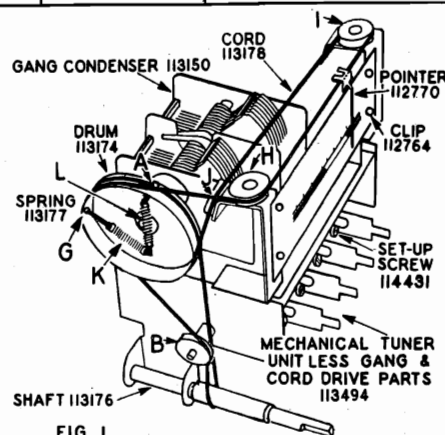

FIG. 1
1. Before setting up buttons, turn on set for at least 15 minutes. To set up a push button, pull off the button cap by grasping the button and pulling upward on it. When the button is removed, the set-up screw will be exposed to view (See Fig. 1). Insert a screw-driver in this screw and loosen it (about one turn counter-clockwise will be sufficient).
1. Close the gang condenser. The set screw in the drum, Fig. 1, must be on the top side.